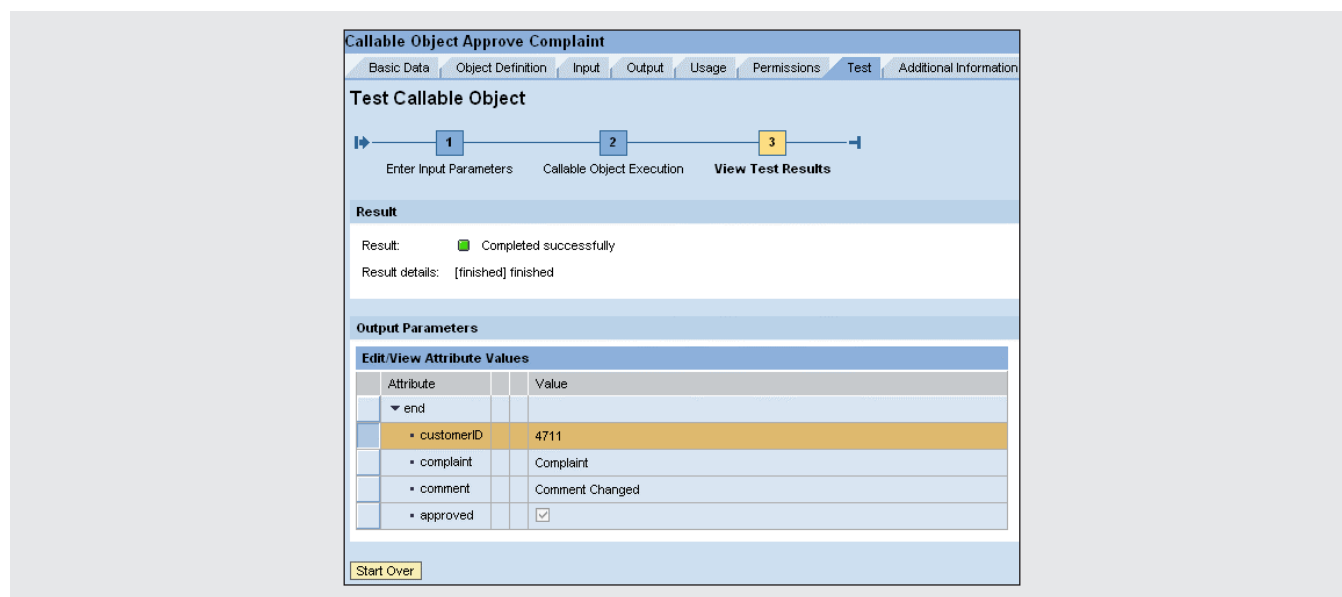

Figure 18 Correct result state for the Approval screen
- Because the Approval UI contains result states that depend on the button pressed, test both buttons (Finished and Return to CC) and double-check the result states to see whether the result state you modeled in Part 1 fired successfully after execution. For example, look at **Figure 18**.